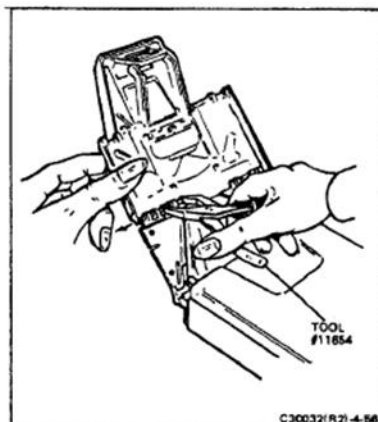

FIGURE 4-56 REMOVING SHUTTER BRACKET/SHORT COVER HINGE PINS
- Using Special Tool #11654, remove the shutter-hinge-bracket-to-short-cover hinge pins. See Figure 4-56. The hinge bracket may now be removed.